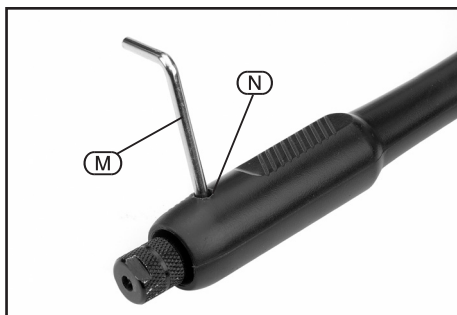

FIG. 10
- Insert pin (M) into the location hole (N) to prevent chuck from spinning (Fig. 10). Open chuck jaws, insert chosen tool (Fig. 11) and reverse process to lock tool in place.